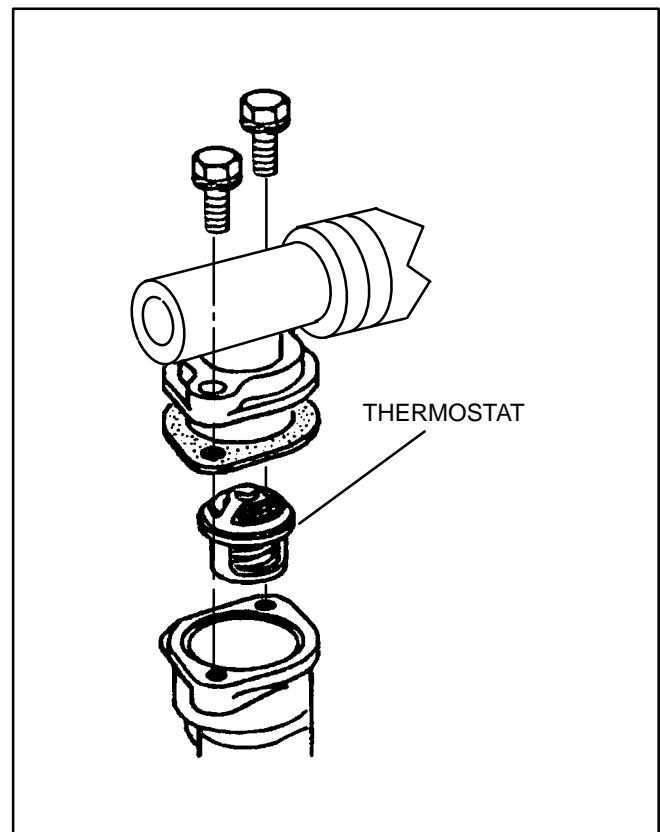

FIGURE 12. REPLACING THERMOSTAT
2. Remove the two thermostat housing bolts (Figure 12) and pull off the housing, thermostat and gasket. The hose does not need to come off.